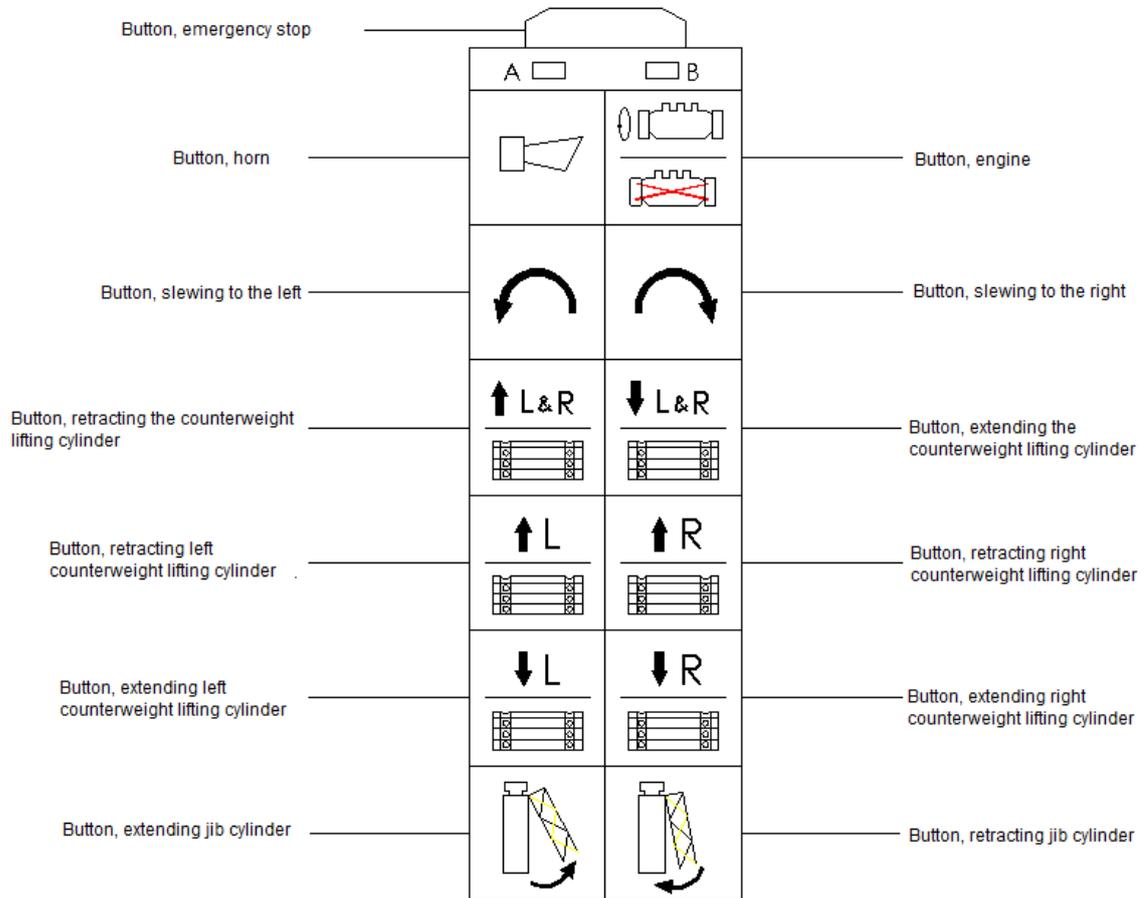

Figure 5-25 Counterweight remote controller
- d) The counterweight remote control box is operational. Refer to Figure 5-25.
- d) The functions of other buttons are illustrated in Figure 5-25.